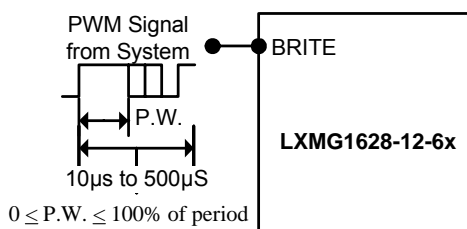

Figure 1A – PWM Brightness Control
- The brightness control may be a voltage output DAC or other voltage source, a digital pot or 500k manual potentiometer. The inverter contains an internal 278k pull-up to 3V to provide bias for the pot. A PWM logic level signal (figure 1A) may be used up to 5V; however the inverter will reach maximum current at less than 100% duty cycle. This can be calculated as approximately 2V divided by the logic high voltage level; with 3.3V logic level this corresponds to about 60% duty cycle for maximum lamp current.